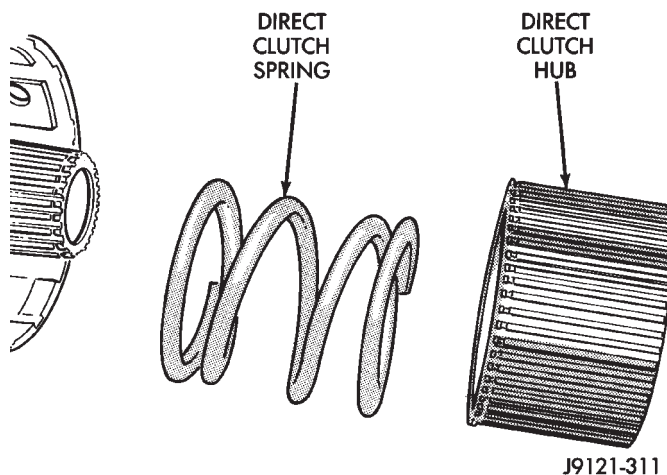

Fig. 23 Direct Clutch Hub And Spring Removal
- (1) Remove direct clutch hub and spring (Fig. 23).